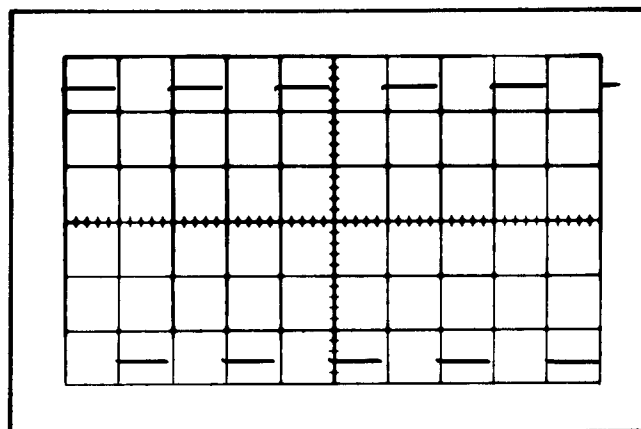

Fig. 5-3. Typical CRT display showing correct vertical gain.
- d. CHECK—CRT display for five divisions of deflection (see Fig. 5-3).